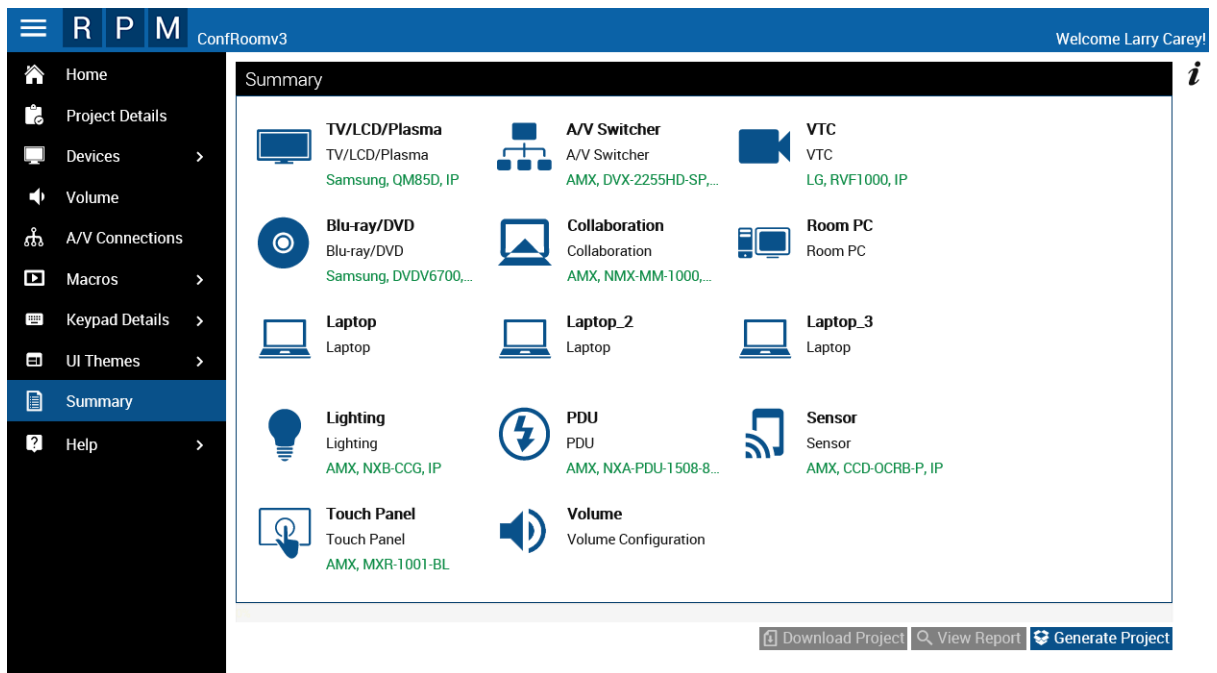

FIG. 33 Sample Summary page
9. Click **Next** to proceed to the *Summary* page (FIG. 33). This page presents a summary of the current project. Review the information on this page before generating the project.